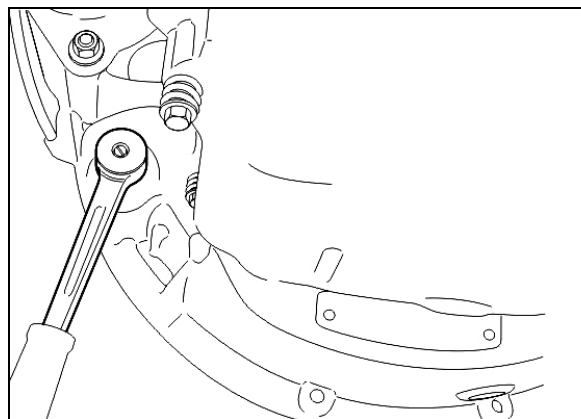

FIGURE 7: VOLVO ENGINE CRANKING POSITION
Remove starter motor located on engine L.H. side. Removing the starter motor will allow access to unfasten the 12 converter-to-flexible plate attaching screws. Remove the plug located below starter motor and install cranking tool (88800014). Cranking the engine to gain access to the attaching screws may be done by turning the cranking tool using a suitable adapter (fig. 7).
*Remove the plug located below starter motor and install cranking tool (88800014). Crank the engine to gain access to the threaded holes by turning the cranking tool using a suitable adapter (Refer to fig. 7).*